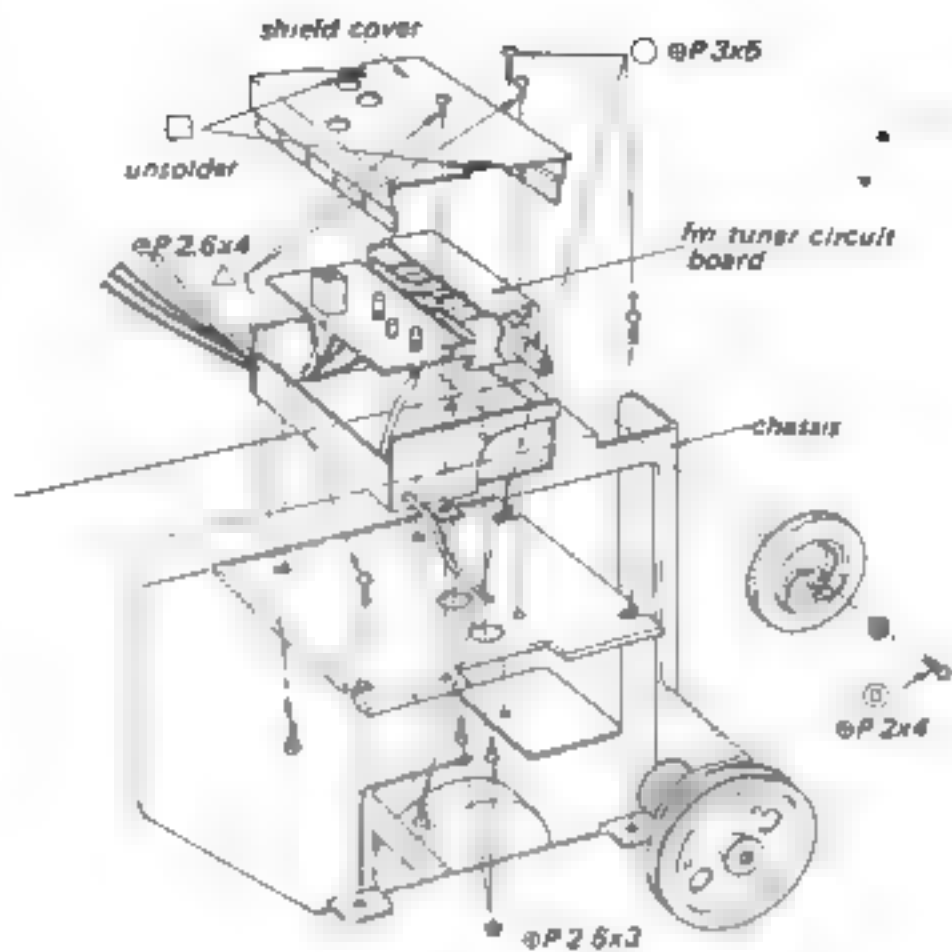

Fig. 2-7
2. Remove the seven screws marked \circ and Δ in Fig. 2-7
6. Take out the shield cover and fm tuner circuit board as illustrated in Fig. 2-7.